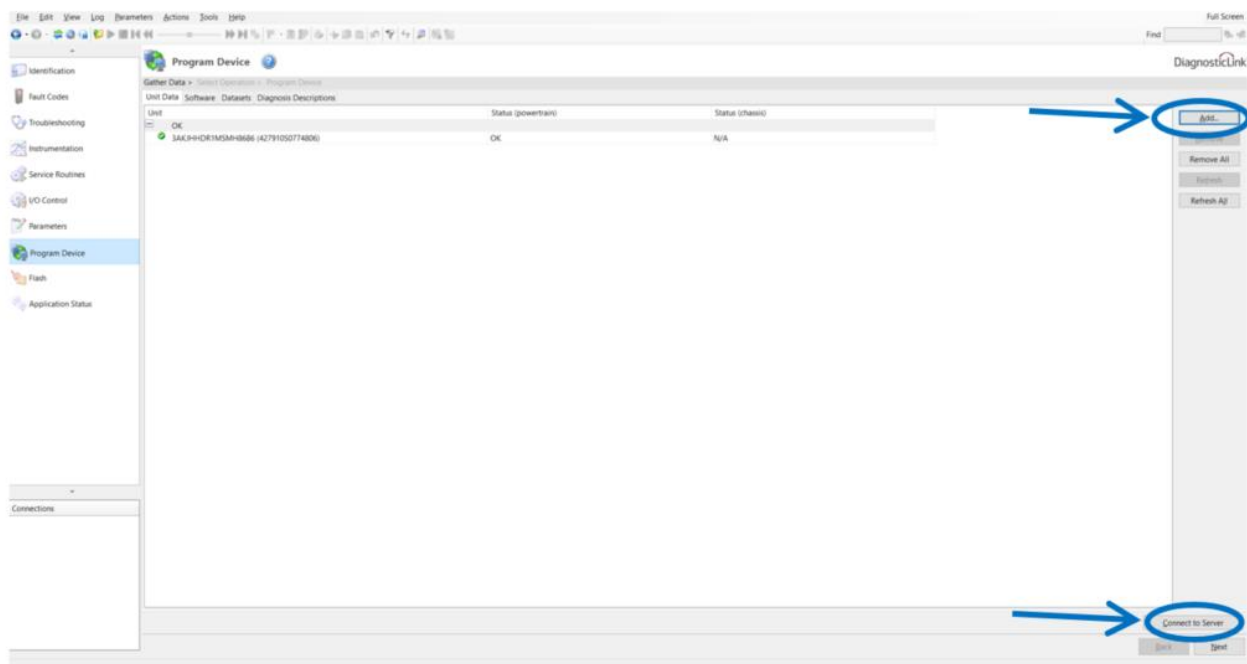

Figure 2 – Adding Engine Serial Number and Connecting To Server
10. Select the “Add” button in the upper right corner of the DiagnosticLink® screen and enter the engine serial number. Then click the “Connect to Server” button in the bottom right corner of the DiagnosticLink® screen. See Figure 2.